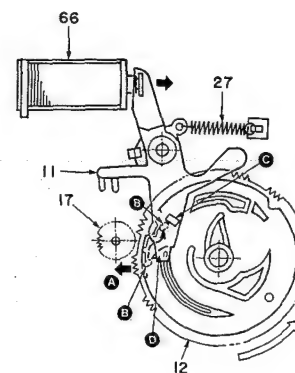
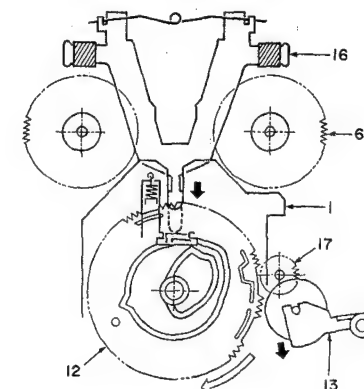

Fig. 9 (Rear side view)
Fig. 10 CUE/REV status (Front side view)
4. PLAY to CUE/REVIEW (REV) Operation (DPSS) (See Fig. 9, Fig. 10)
- 4-2. By a signal from the microprocessor, the SOLENOID (66) turns OFF.
- 4-3. The PLAY ARM (11) is swung in the direction of the arrow **A** by the SPRING (27), the pin **B** is released from the stopper **D**.